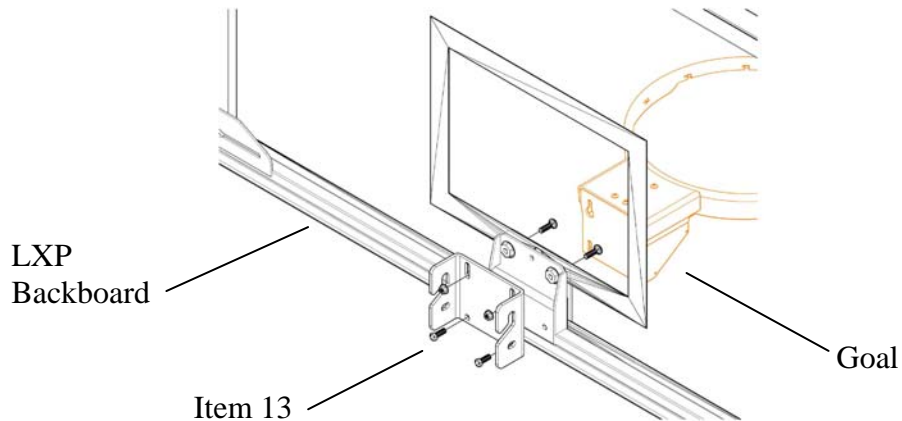

Figure 2
1. Position the Quick Change Backboard Bracket (item 13) to the back of the board and install a 3/8-16 x 1" bolt with lock washer and flat washer in the lower two holes of the mounting plate and into the two tapped insert holes of the LXP backboard as shown in figure 2 on the next page. Tighten these bolts securely.